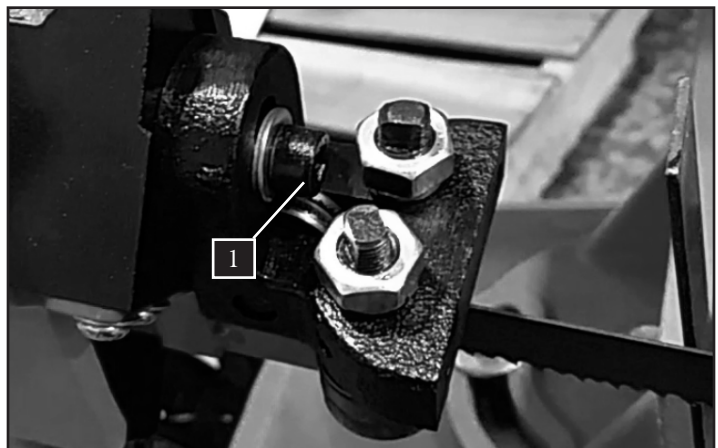

Fig. 18
5. If adjustment is necessary, loosen the set screws (Fig. 18 - 1) on the left and right blade guide assemblies using a hex wrench. Slightly rotate the both blade guide assemblies in the same direction, until the blade makes contact with the square along its entire width.
NOTE: To help adjust and tighten the blade guide assemblies, you can take a pair of locking pliers and clamp it on to the black part (Fig. 18 - 2) of the assembly. Hold the locking pliers to adjust the blade guide angle with one hand and tighten the set screw with the other hand.
6. Tighten both set screws (Fig. 18 - 1).